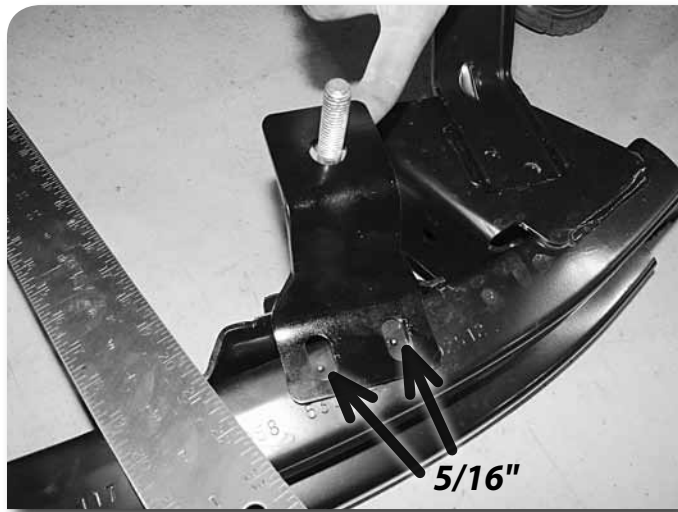

Figure 19
39. Place 9/16" bolt through front bumper as shown Figure 19